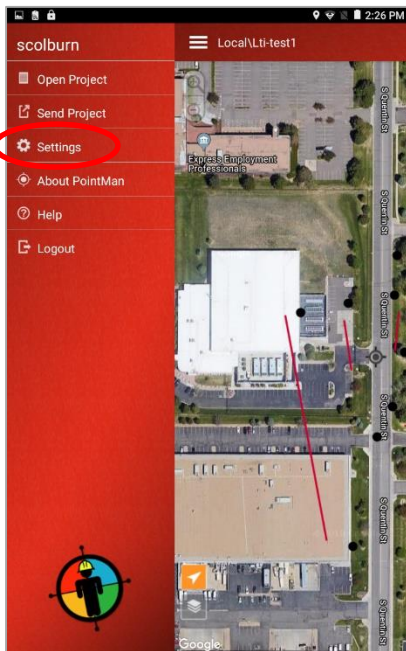

Figure 1
1. In the laser Settings menu, turn On the Bluetooth “**bt_on**”. On the device, start Pointman and from the Menu, select **Settings** (Figure 1)